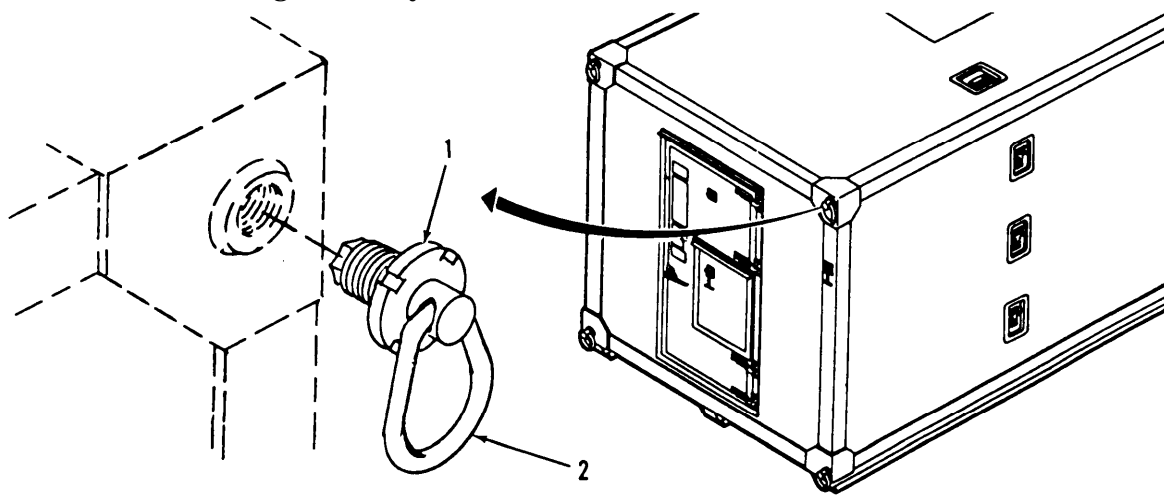

Figure 3-29. Lifting and Tiedown Eye Assembly Replacement.
a. Inspect. (Figure 3-29)
- (1) Inspect for free movement and secure mounting,
- (2) Inspect for cracks or other external damage.